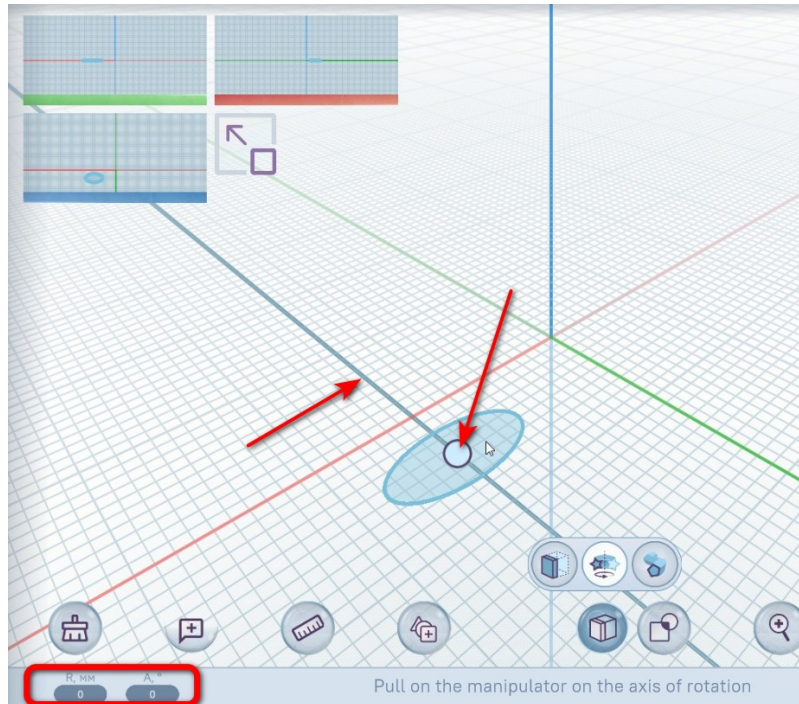

Figure 95 –Rotation axis, rotation manipulator, and input fields
- 4) Select a sketch by clicking on it. When a sketch is selected (Figure 95):